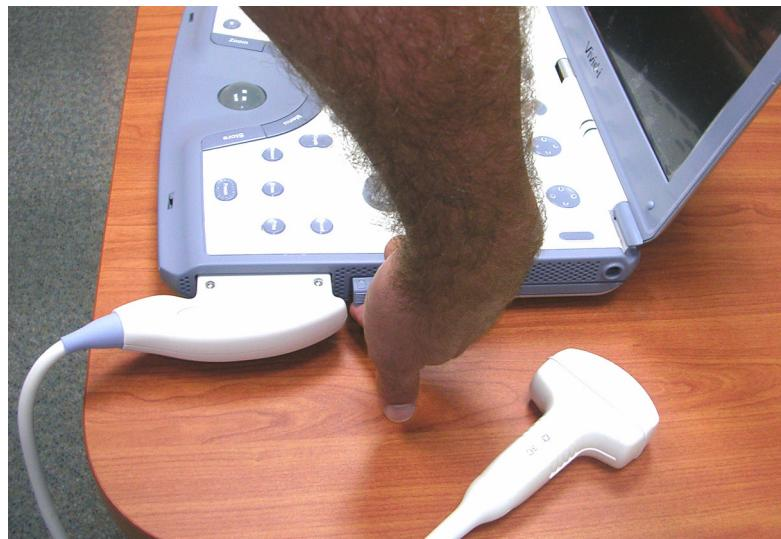

Figure 3-29 Securing Probe with Locking Lever
- 6) Press the connector locking lever *upwards* to the full vertical position to lock in place, as shown in Figure 3-29.